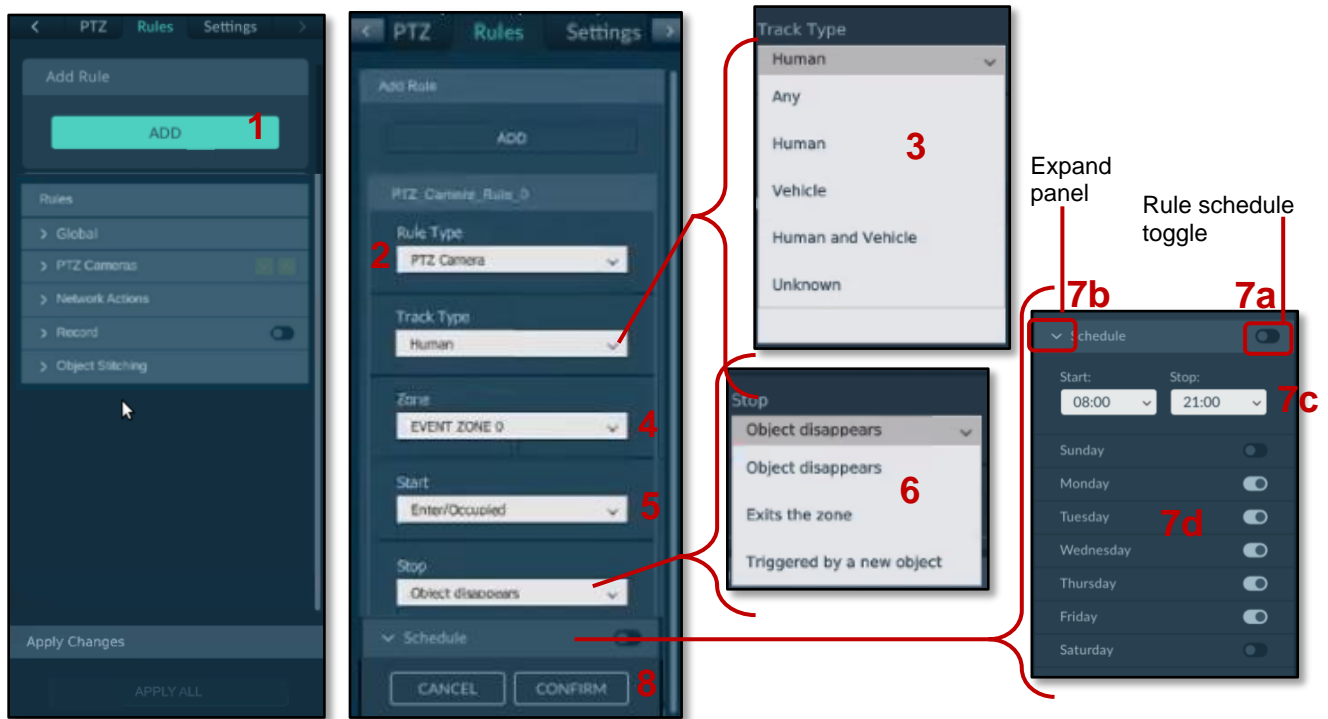

Figure 88. PTZ Camera Add Rules Panel
1. From the **Configuration** mode panel > **Rules** tab, click **Add**. See Figure 88. PTZ Camera Add Rules Panel.